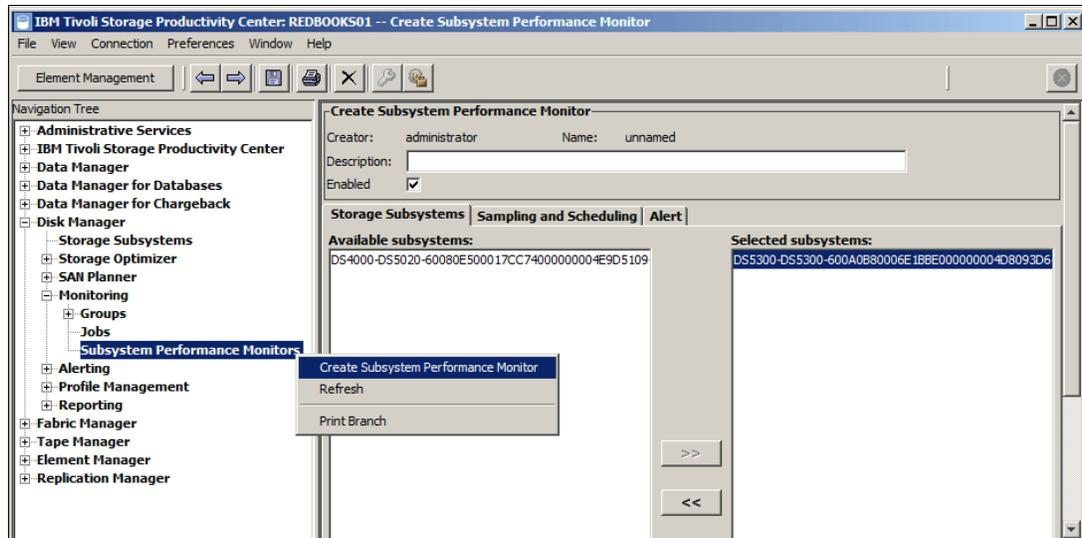

Figure 9-31 Create Performance Monitor job
1. Expand **Disk Manager** → **Monitoring**, then right-click **Subsystem Performance Monitors** and click **Create Subsystem Performance Monitor**. In the Available subsystems tab in the right pane, select the storage subsystem to be monitored and move it to the Selected Subsystem tab, as shown in Figure 9-31.